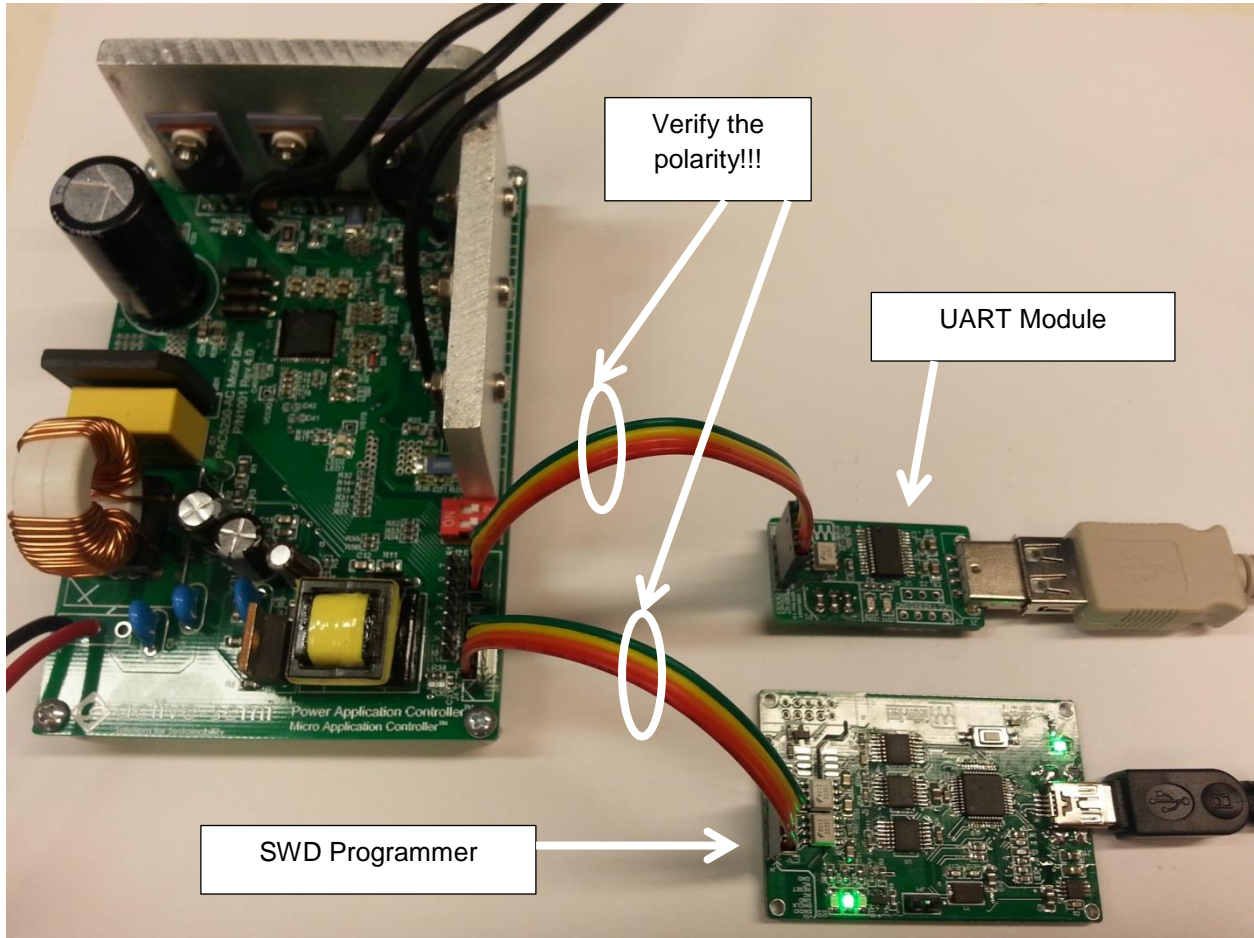
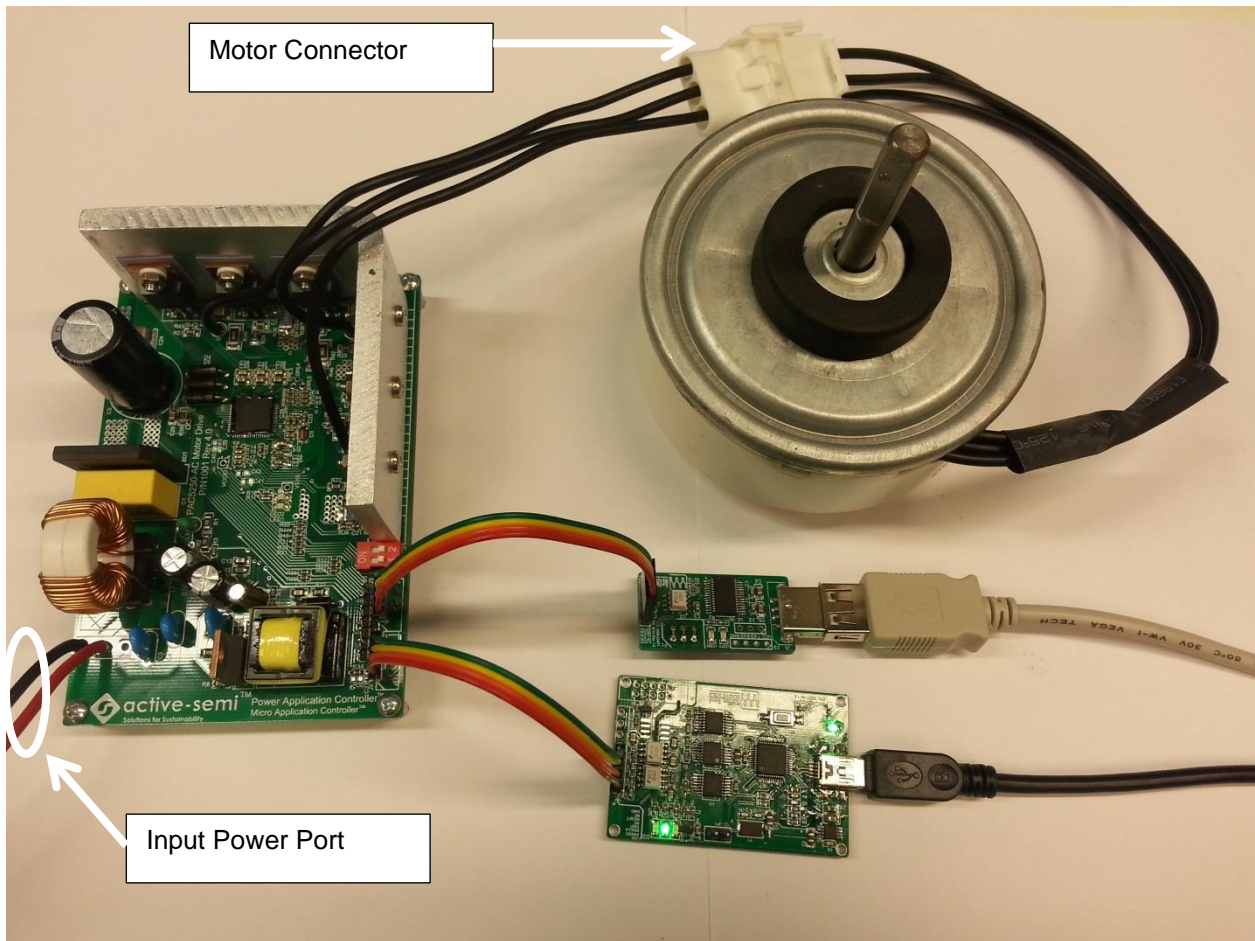

Figure 3: SWD Programmer and UART Module Connection
Figure 4: Motor and Input Power Connection
To connect the evaluation unit, please refer to in Figure 3 and Figure 4 below while following the following steps:
- 1) Connect the UART isolation module to a USB port in the computer. Please take care to connect with the correct polarity as shown in Figure 3.
- 2) Connect the SWD programmer/debugger to a USB port in the computer. This is only necessary if it is necessary to flash a new firmware into the evaluation board. The evaluation board should already be pre-loaded with the necessary firmware. Please take care to connect with the correct polarity as shown in Figure 3.
- 3) Connect the motor to the motor output connector as shown in Figure 4.